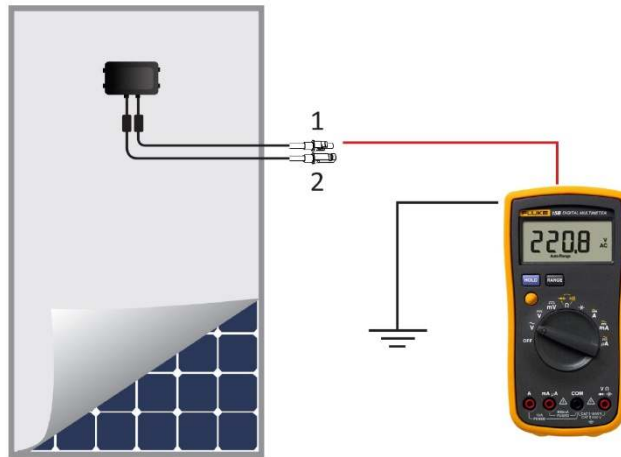

Figure 5: Connecting the insulation tester to the module
- h. Connect the one of the module's input cables to the positive probe of the insulation tester and connect the negative probe of the insulation tester to a ground point (see Figure 5).